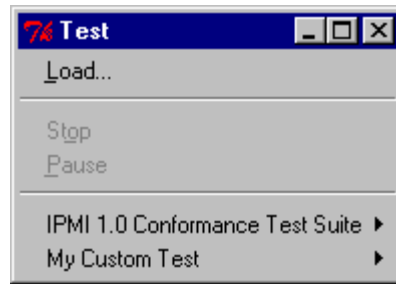

Figure 5-18. The Test Menu with “My Custom Test” Loaded
3. *Click* Load/OK button. The framework loads the selected test modules, and they appear in the test list. Figure 5-18 shows the **T**est menu with the newly loaded test, “My Custom Test:”